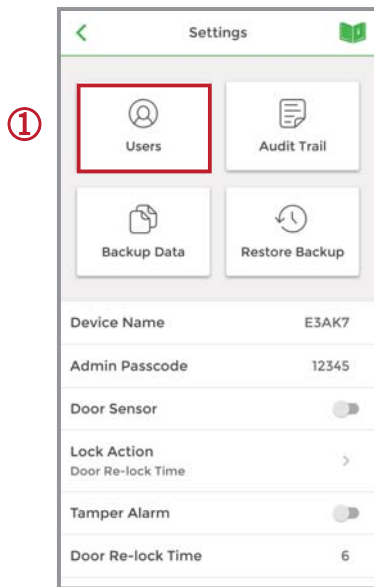

Figure 1
① Users : (See Figure 1 below)